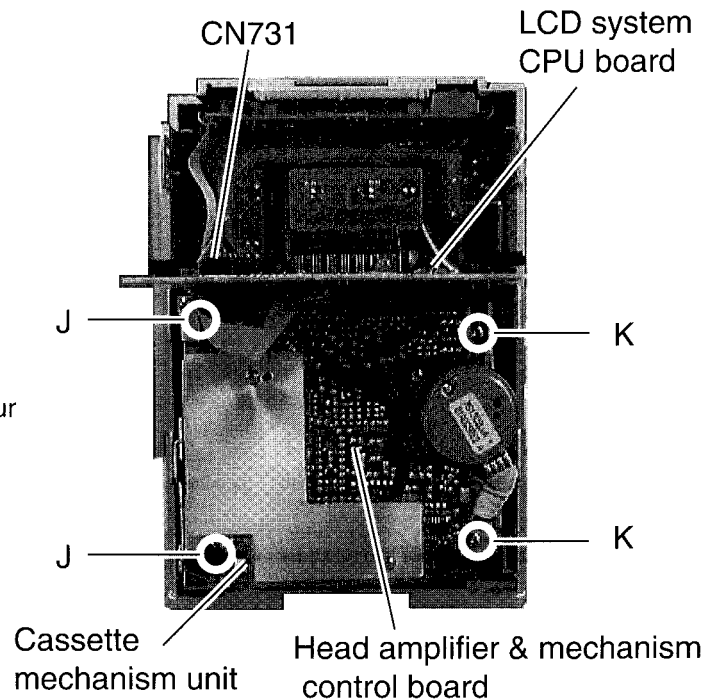

Fig. 14
■ Removing the cassette mechanism unit (See Fig. 14)